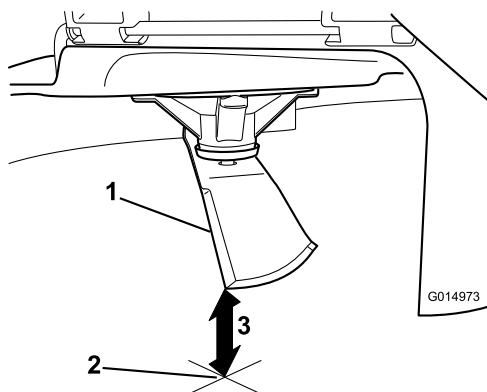

**Figure 46**
4. Rotate the same blade 180 degrees so that the opposing cutting edge is now in the same position (Figure 46).